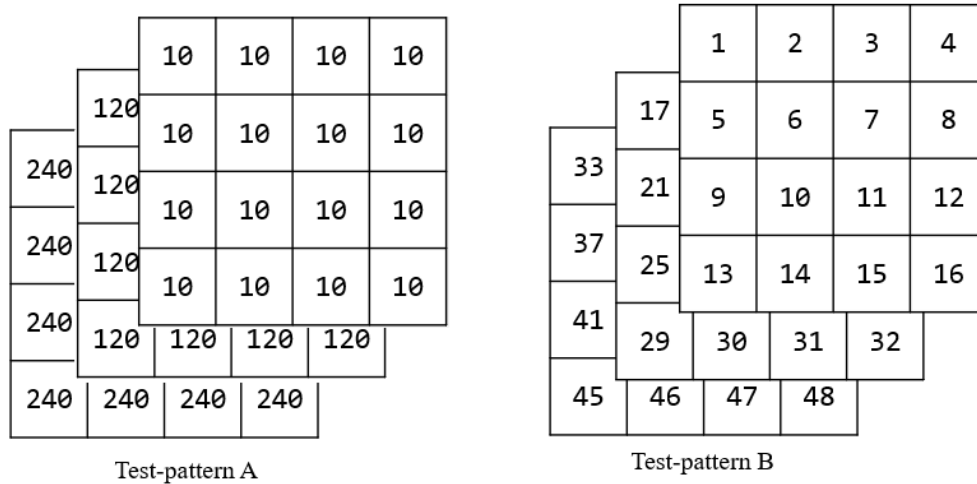

Figure 3. Test-pattern data examples
- The test results were based on test-pattern A in Figure 3 and the same NN used in the DMS demo as the self-test algorithm.